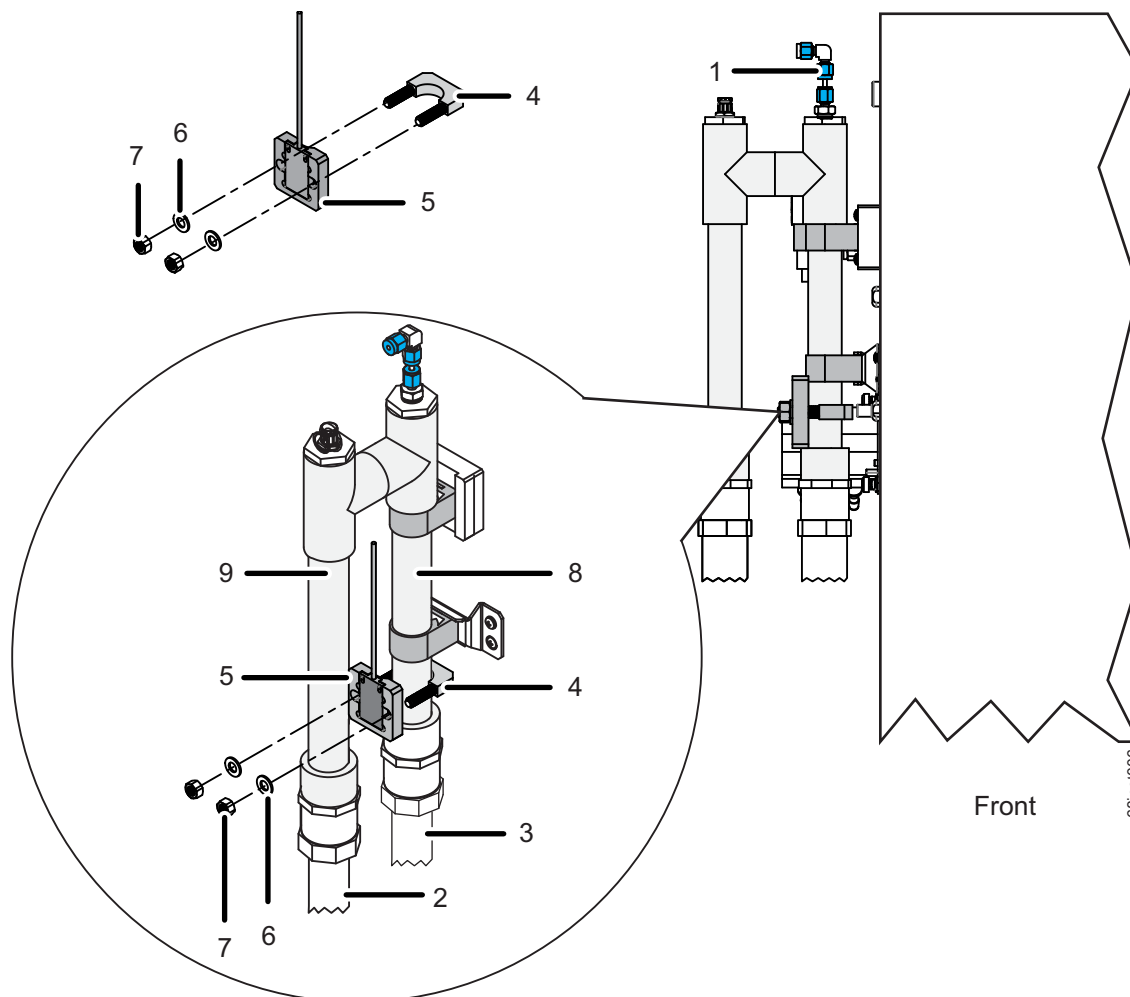

Figure 25: Velocity Mode — Fail Safe Installation
8. Remove the U-bolt **(4)** from the sensor **(5)** and position the U-bolt **(4)** over and near the end of the pipe *with the sipper tube* **(8)**. See Figure 25: Velocity Mode — Fail Safe Installation on page 93.